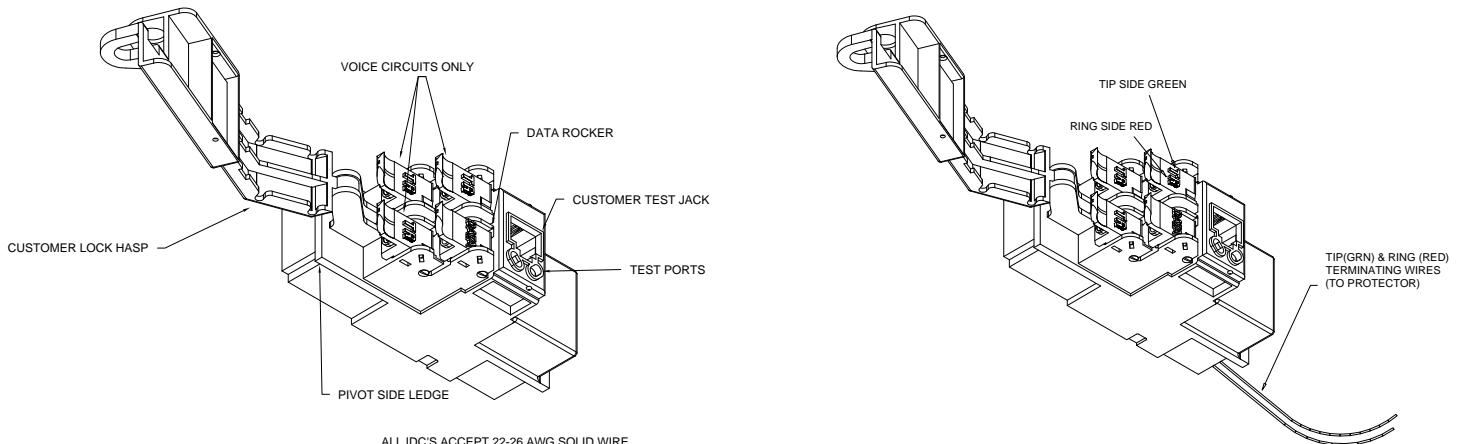

Figure 1
1.1 The TII 96-00-5 Series VDSL2 Splitter Module maintains a constant direct connection between customer and central office service provider. The Splitter Module is equipped with a customer test jack (see Figure 1). The customer can insert the RJ-11 plug from a working telephone into this test jack to assure a signal is received from the central office. This is the only time the customer is disengaged (both DSL and POTS service) from the central office.
- 4.1 Three telephone voice (POTS) pairs and one DSL line (DATA) can be connected to a single Splitter Module. The customer has the option of installing a #10 Master lock around the customer lock hasp (see Figure 1).
- 4.2 When installing the first pair of customer telephone wires, always begin with the bottom terminating rockers (see Figure 1).
- 4.7 Lift all Splitter Module rockers to the open position as shown (see Figure 1).